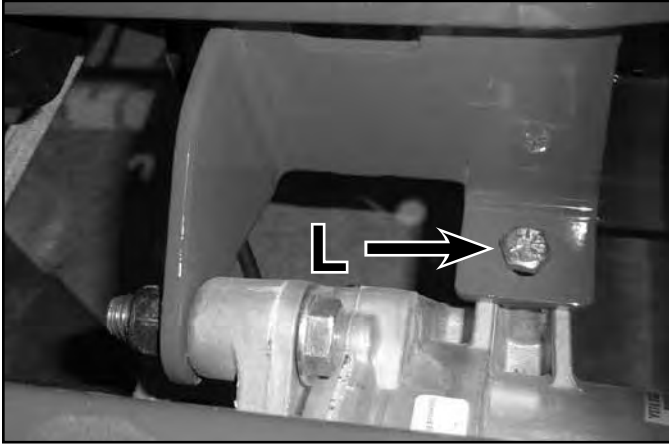

Fig. 078
3rd - Torque fastener (L) to specification – 17 ft-lbs. (23 Nm) (Fig. 078)